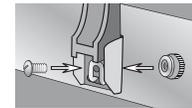

Figure 3.
- Step 6: Using attaching hardware found in the parts bag, take one large bolt PN# LS-501 and one large thumb nut PN# LTN-501. Slide large bolt through the round hole, capturing the loop, handle bracket and the food rack cover. Thread the nut onto the large bolt from the opposite of the food rack and tighten (Figure 3).